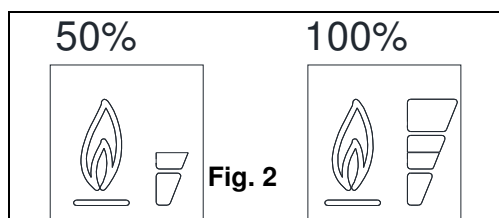

Fig. 2
During the boiler operation the display can show **2** different power levels according to the flame modulation of the boiler (see fig. 2)
In order to restore the water pressure of the system, open the filling tap **R** (fig. 2) and check by means of a pressure gauge **M**, that the pressure of the system reaches the middle part of the green zone (which corresponds to 1,2 bar, see fig. 3).
On completion, close the filling tap **R** (fig.2).
- Check the water pressure in the central heating circuit. The reading on the pressure gauge **M** (see fig. 2), located on the lower part of the boiler, must not be less than 1,2 bar.